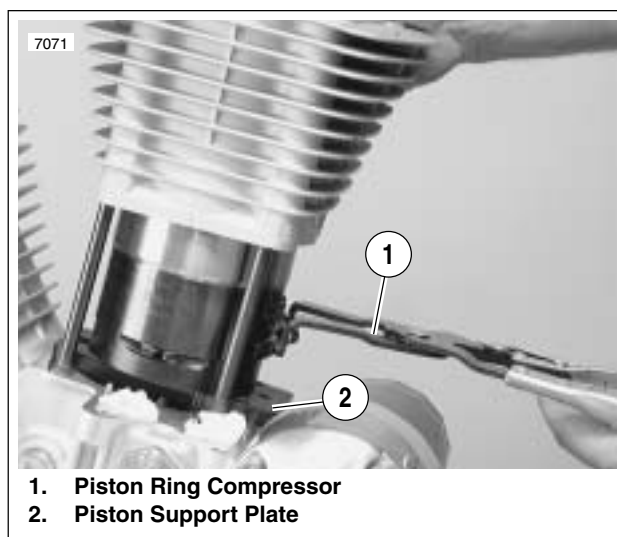

Figure 3-44. Compressing Piston Rings
6. Remove PISTON SUPPORT PLATE (3) (Part No. HD-42322).
9. See Figure 3-44. Compress the piston rings using PISTON RING COMPRESSOR (Part No. HD-96333-51C).